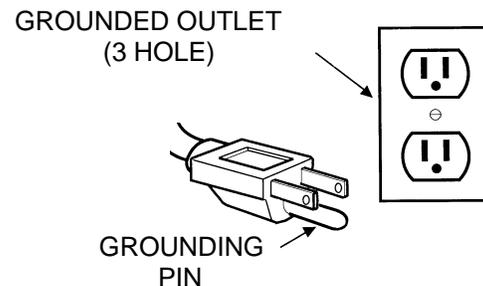

Fig. 9
12. Plug machine's power cord into a grounded wall outlet (Figure 9).